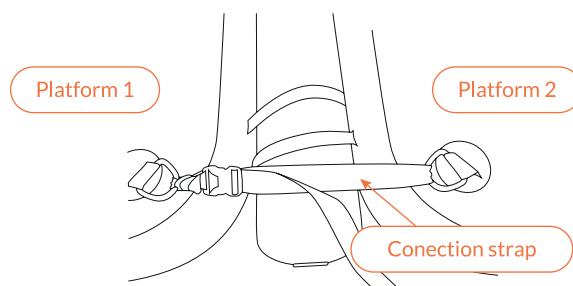

Fig 74 – Connection strap using D-rings between Platforms
5. Secure the Platforms to each other using the connection straps and the D-rings. Feed the connection straps through the opposite D-rings of each Platform and secure on both sides of the Air Toggle connection (Fig 74).